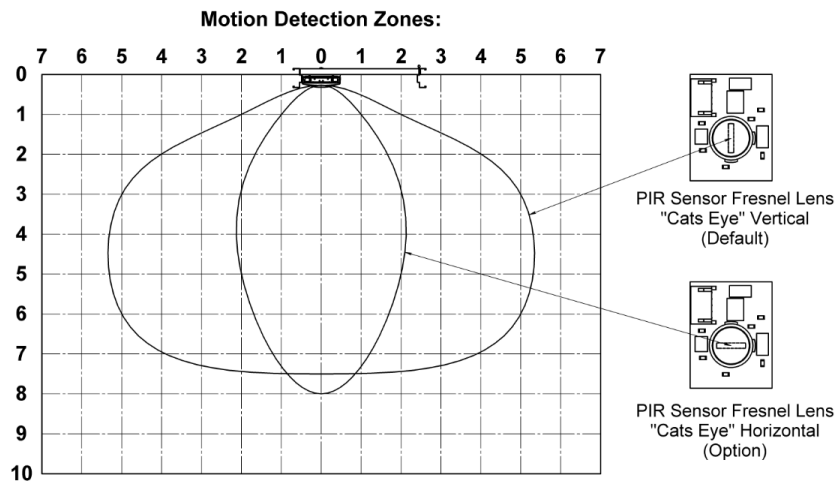
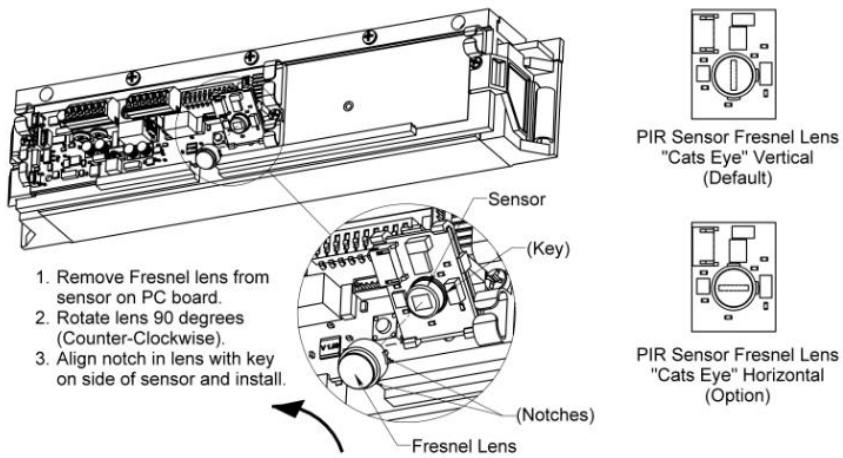

Figure 36. Normal Sensitivity PIR Coverage
Figure 38. Changing the Fresnel Lens Orientation
1. VERIFY PIR coverage and ADJUST PIR coverage as desired (see Figure 36 and 37, "PIR Coverage" and Figure 38, "Changing the Fresnel Lens Orientation").